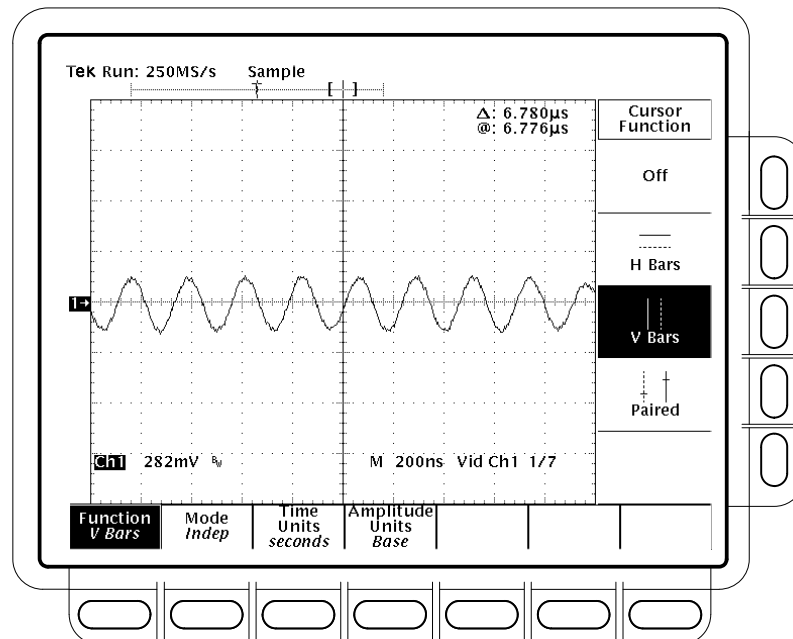

Figure 1-37: Line Count Accuracy Correct Result Waveform
- Verify that the cursor is positioned on a positive slope of the burst signal. See Figure 1-37.